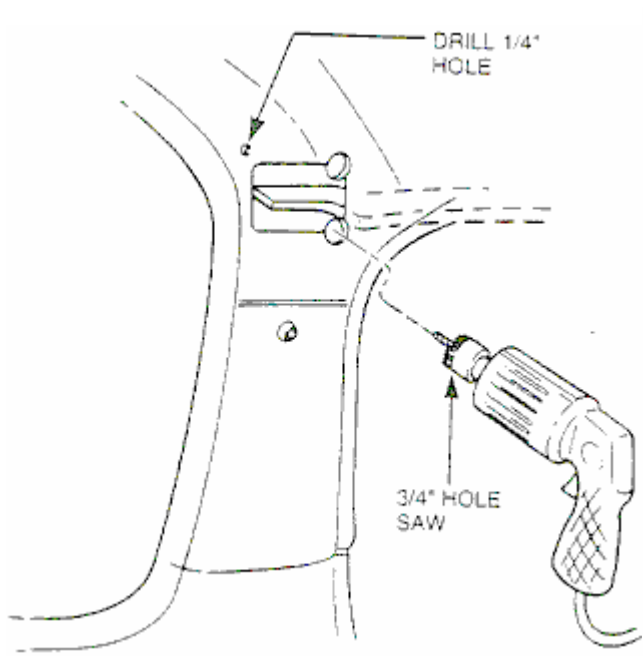

FIGURE 2
12. Use a 3/4" hole saw at the four corners of the rectangle and drill 1/4" hole (refer to Figure 2).